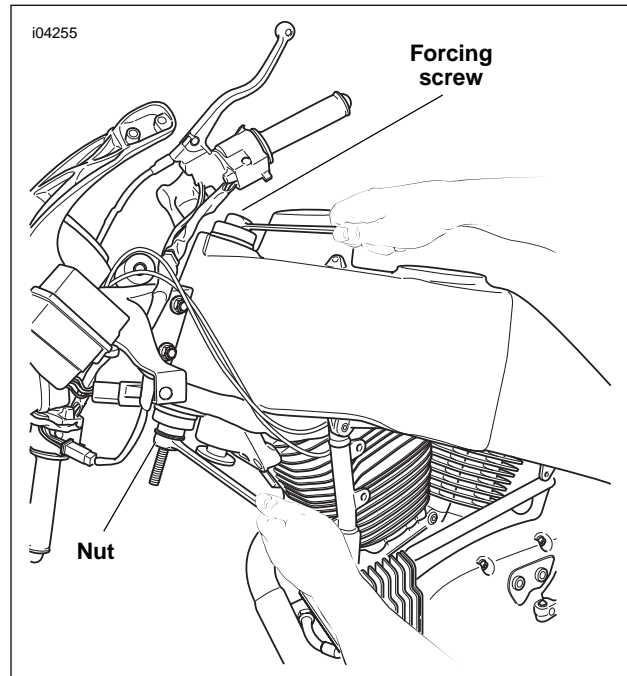

Figure 2-74. Install Bearings
- See Figure 2-74. Hold the forcing screw while tightening the nut to draw the bearings into the steering head. Continue tightening until both bearings are fully seated.